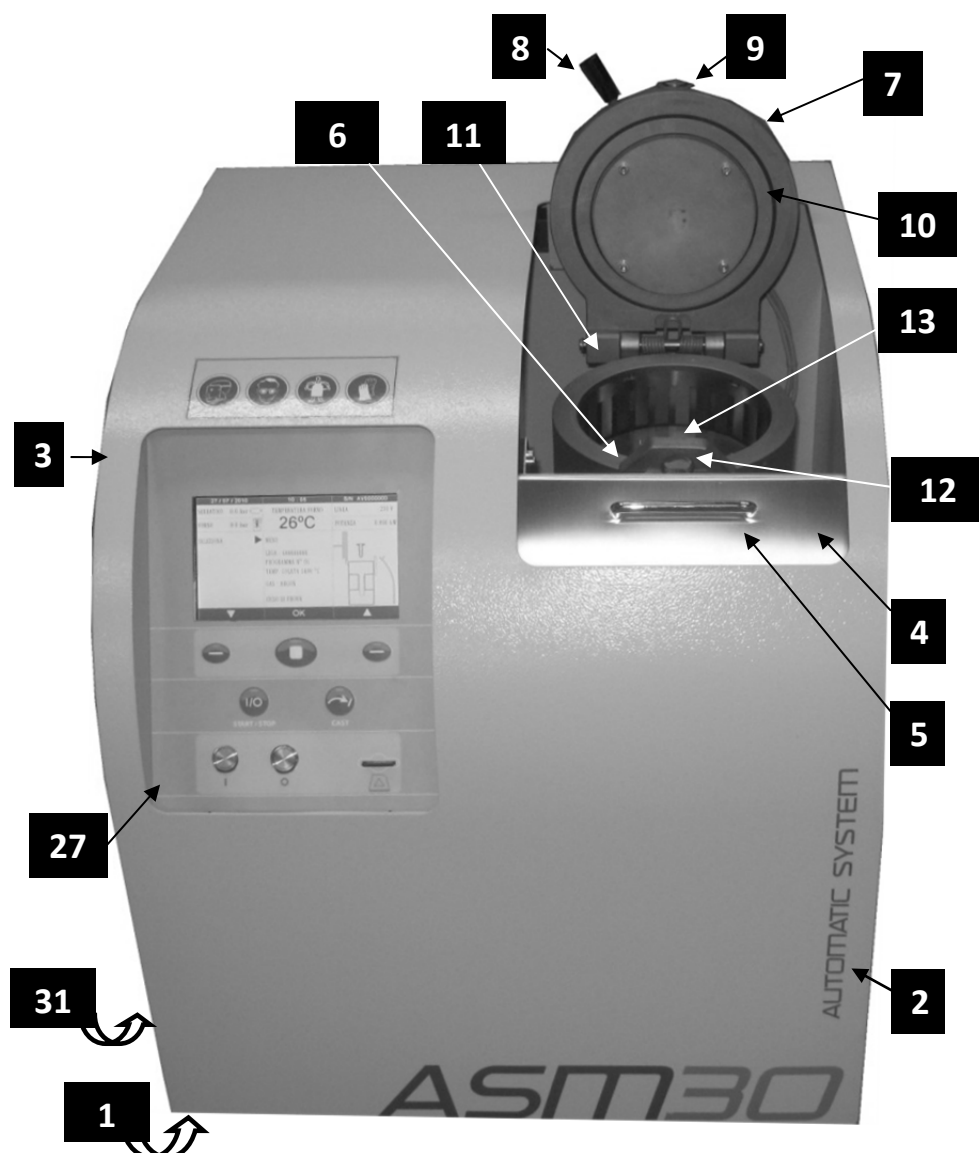

Fig. 1
- A frame for supporting all of the other components (Pos.1 Fig.1).
- A removable cabinet (Pos.2-Fig 1), equipped with a lateral hatch (Pos.3-Fig.1) for inspecting the electrical and pneumatic components and an upper hatch (Pos.4-Fig.1) for protecting the operator during the automatic cycle.
- A furnace (Pos.6, Fig.1) equipped with a cover and a relative locking mechanism (Pos.7, Fig.1).
The left-hand side of the casing contains a control panel (Pos.27, Fig.1), which includes the electronic boards, the start and stop buttons, the function management controls, the colour display and the SD card slot.